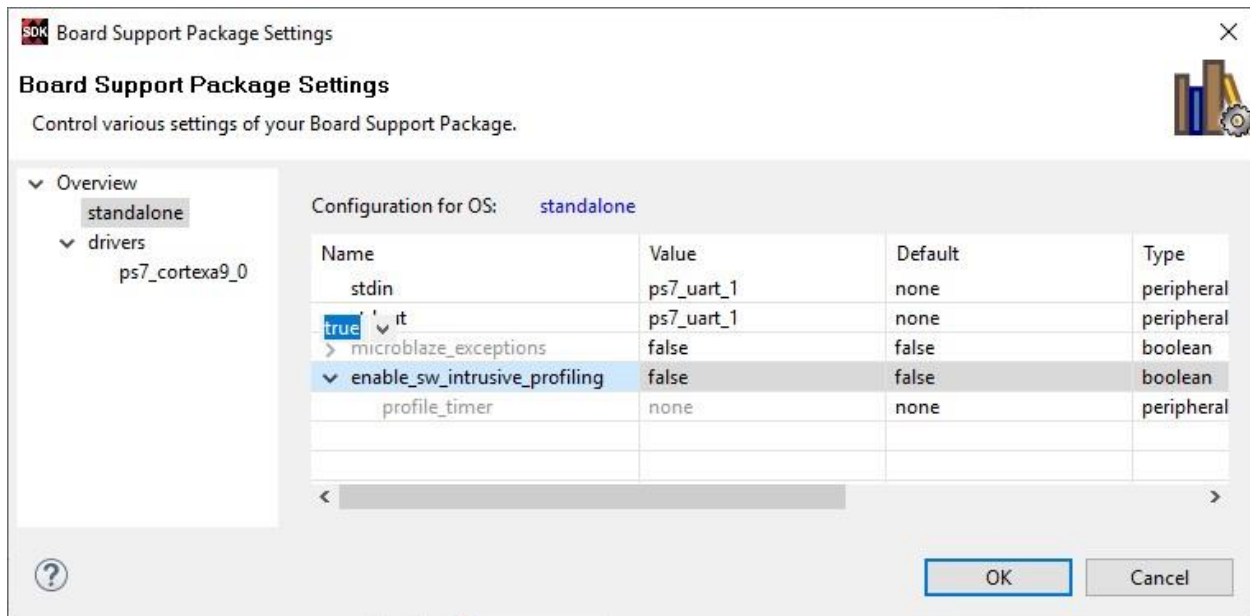

Figure 38: Board Support Package Settings window.
5. The Board Support Package Settings window will appear. Select **Overview** → **standalone**, click on the drop-down arrow over the **enable_sw_intrusive_profiling** Value field, and select **true**, as in Figure 38).